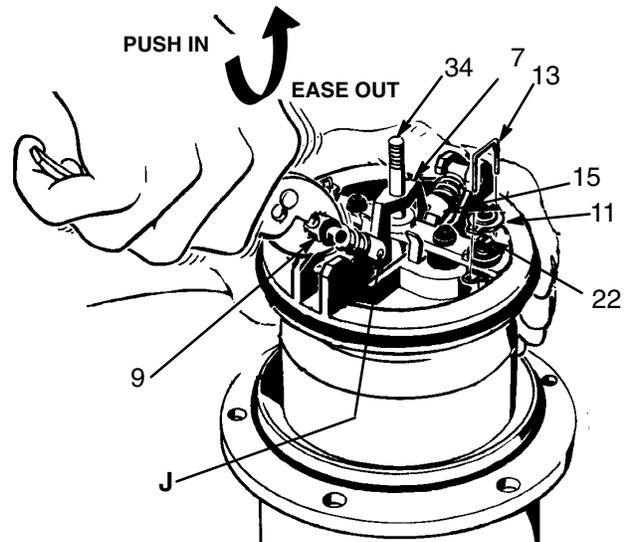

Fig 10-1
8. Use a screwdriver to push down on the trip rod yoke (7) and snap the toggles down. See Fig 10-1. Remove the lockwires (13) from the adjusting nuts (11) of the transfer valves. Screw the top nuts off. Screw the stems (22) out of the grommets (10) and bottom nuts. Take the valve poppets (30) off the stems and squeeze them firmly to check for cracks.